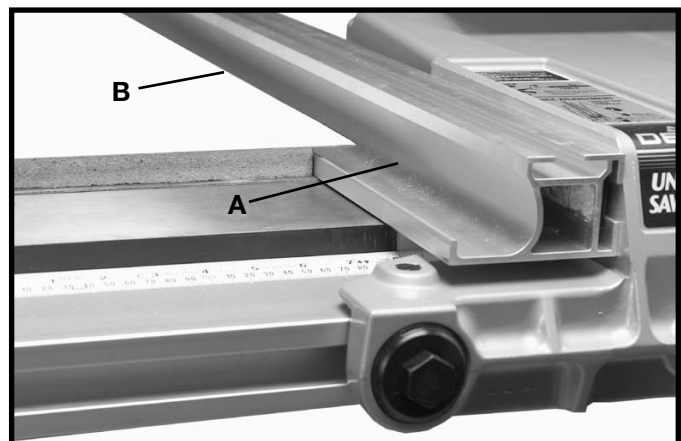

Fig. 99
When ripping material with a veneer facing that extends over the material, the fence (A) should be in the horizontal position with the veneer (B) extending over the lip of the fence, as shown in Fig. 99.